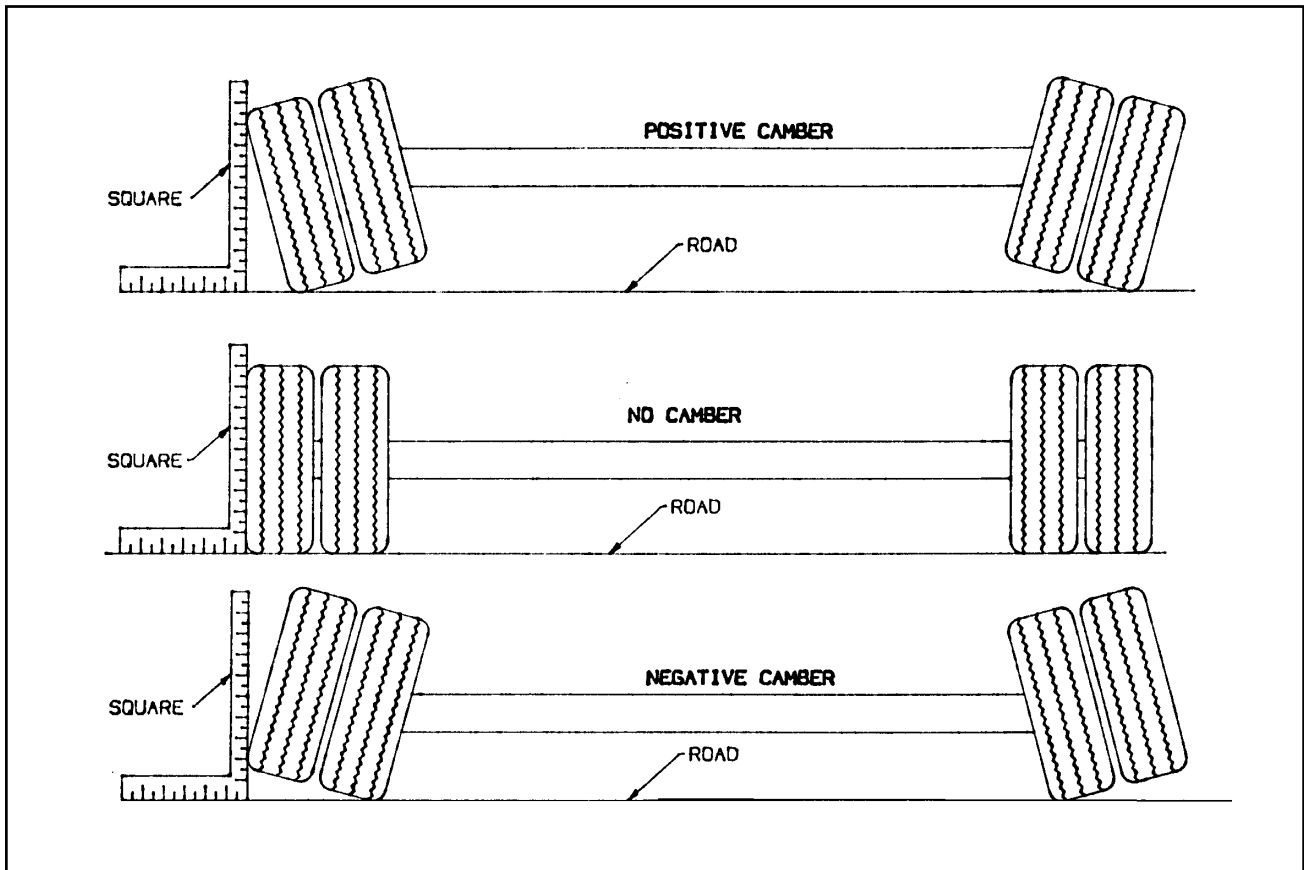

Figure 4-7 Examples of Camber
- d. Follow the same procedures as in **Section 4-7.1 b. and c.**, except place the axle gauge above and below the axle. If gauge point gap is found, the axle has positive or negative camber. The trailer axle has no camber from the factory. If it is found to have positive or negative camber, axle replacement is necessary (**See Figure 4-7** for examples of camber).